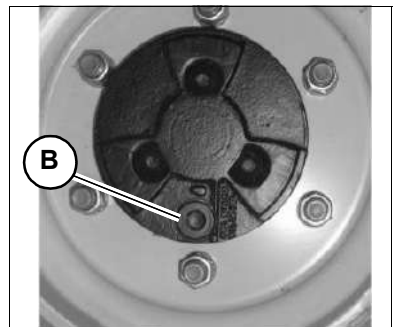

Figure 95 – Wheel-Hub Oil Drain Position
3. Rotate the oil drain holes (B, Fig. 95) on the wheel hubs so they are positioned at the bottom as shown in the figure. Allow the oil to completely drain from the hubs.